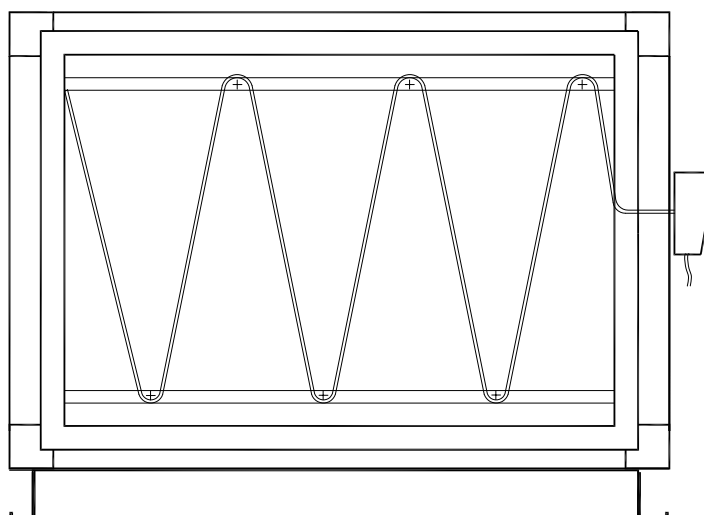

Figure 18
- The protection of the heater against freezing consists of an air flow thermostat with a capillare installed in a separate section on the "warm" side of heater. The capillare and thermostat are fixed onto a removable frame (Figure 18).